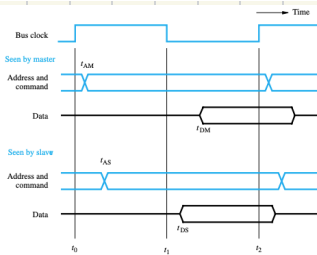

Figure 7.4 A detailed timing diagram for the input transfer of Figure 7.3.
7.4 [M] Figures 7.4, 7.5, and 7.6 show three protocols for transferring data between a master and a slave. What happens in each case if the addressed device does not respond due to a malfunction during a Read operation? What problems would this cause and what remedies are possible?